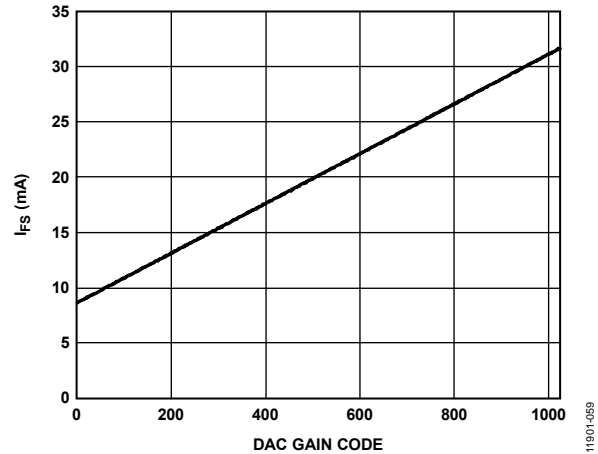

Figure 57. DAC Full-Scale Current vs. DAC Gain Code
For nominal values of V_{REF} (1.2 V), R_{SET} (10 kΩ), and DAC gain (512), the full-scale current of the DAC is typically 20 mA. The DAC full-scale current can be adjusted from 8.64 mA to 31.68 mA by setting the DAC gain parameter, as shown in Figure 57.